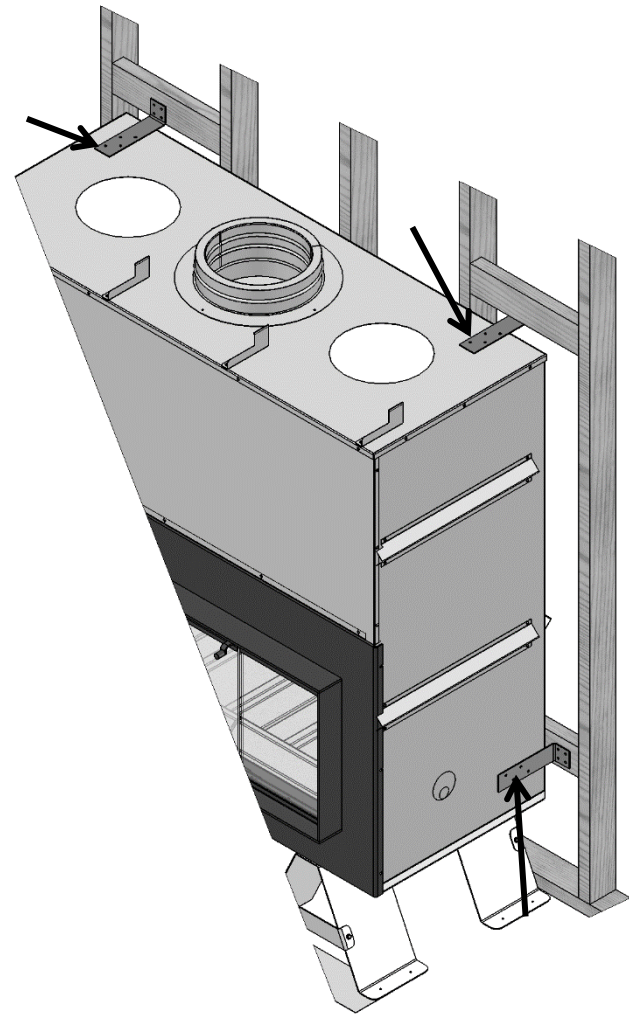

FIGURE 8 ANTI-TIP STABILITY BRACKET INSTALLATION
You MUST install two anti-tip stability brackets (D) at the top of the fireplace. They must be solidly screwed to the back wall and to the top of the fireplace. Depending on your specific installation, you can install the anti-tip stability brackets in two different ways. Refer to Figure 8 for examples of installation of the anti-tip stability brackets. Use eight of the large self-tapping screws provided (E) to attach both anti-tip stability brackets to the top of the fireplace casing.